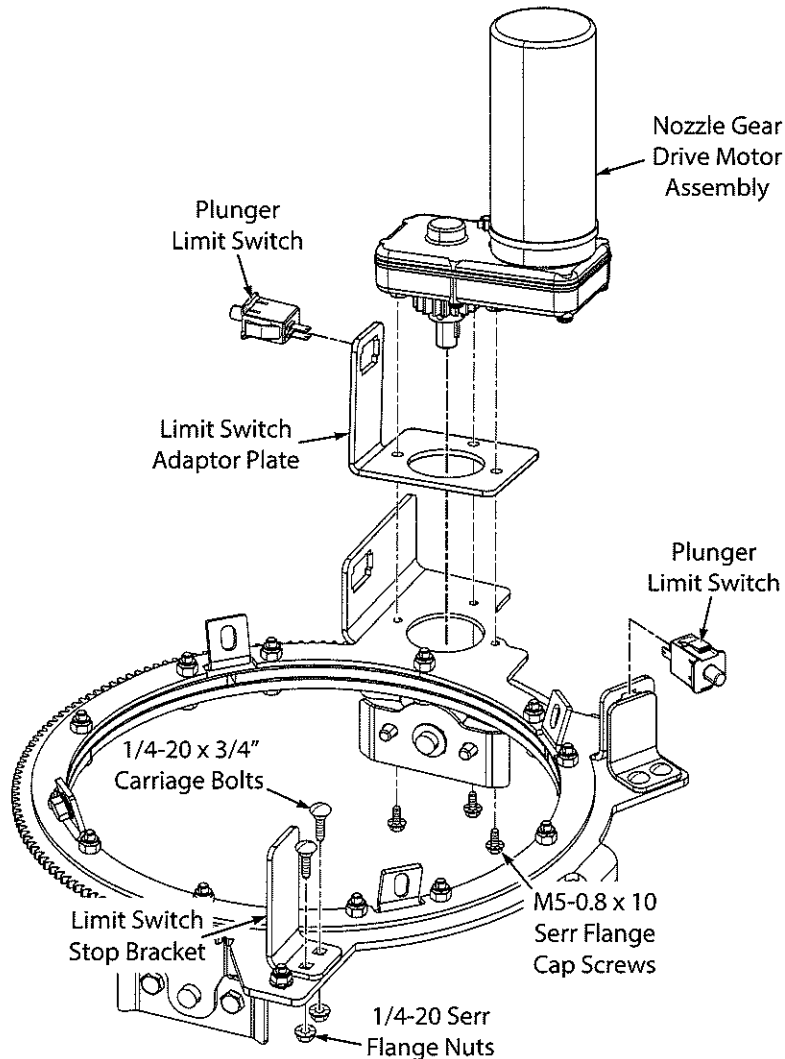

Figure 2. Install Nozzle Gear Drive Motor & Associated Components
- Using the three (3) M5-0.8 x 10 serrated flange cap screws removed in the previous step, install the new nozzle gear drive motor and limit switch adaptor plate to the pivot gear top plate. See Figure 2.
- Install one of the plunger limit switches supplied with this kit to the limit switch adaptor plate as shown. Install the remaining plunger limit switch provided to the pivot gear top plate. See Figure 2.
- Using the two (2) 1/4-20 x 3/4" carriage bolts and two (2) 1/4-20 serrated flange nuts removed in step 7, assemble and secure the limit switch stop bracket supplied with this kit to the nozzle pivot gear. See Figure 2.